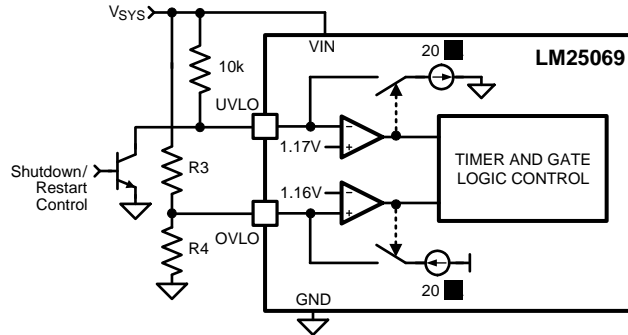

Figure 33. UVLO = POR with Shutdown/Restart Control
**Option C:** The minimum UVLO level is obtained by connecting the UVLO pin to VIN as shown in Figure 33. Q1 is switched on when the VIN voltage reaches the POR threshold ( $\approx 2.6V$ ). The OVLO thresholds are set using R3, R4. Their values are calculated using the procedure in Option B.